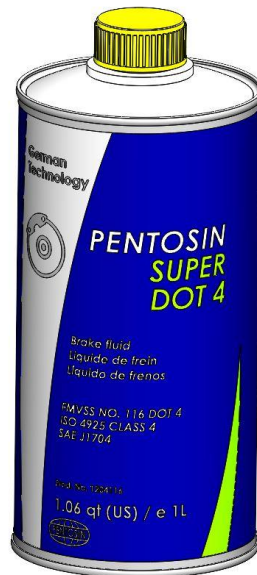

Figure 10 – Pentosin Super DOT 4
16. If the master cylinder has been removed or replaced, make sure it is properly bench bled and then installed on the vehicle. Then the remaining brake system can be bled to remove all of the air from the system. **REMEMBER:** Master Power Brakes requires the use of either DOT 3 or DOT 4 brake fluid. We Recommend the use of Pentosin Super Dot 4 fluid as seen below in Figure 10 (**Available at Master Power Brakes P/N: ACJ1703**).